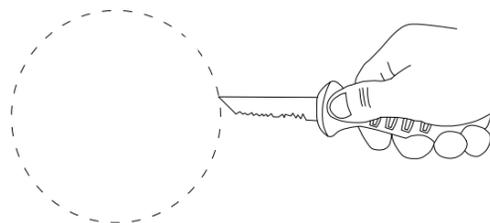

Fig 1.
6. Mark and cut out a **255mm diameter hole** for units 22771/05 and 22773/05. (Fig 1).
7. Mark and cut out a **300mm diameter hole** for units 22772/05 and 22774/05. (Fig 1).